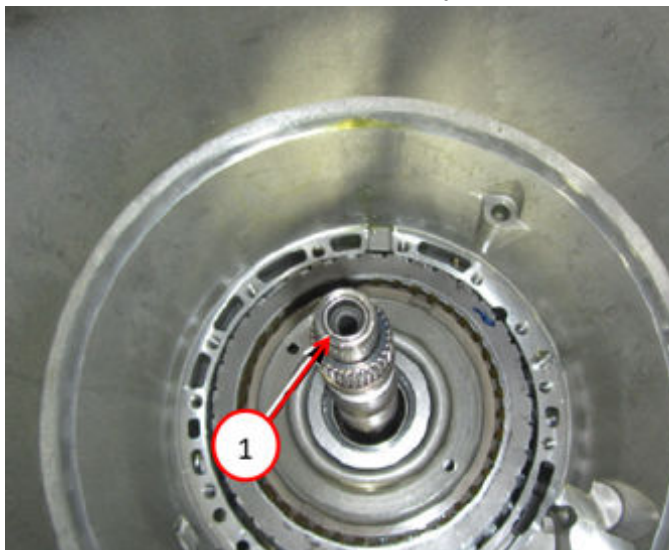

Fig. 19
26. Remove the input/output shaft and P4 annulus drum assembly from the case Fig. 19.